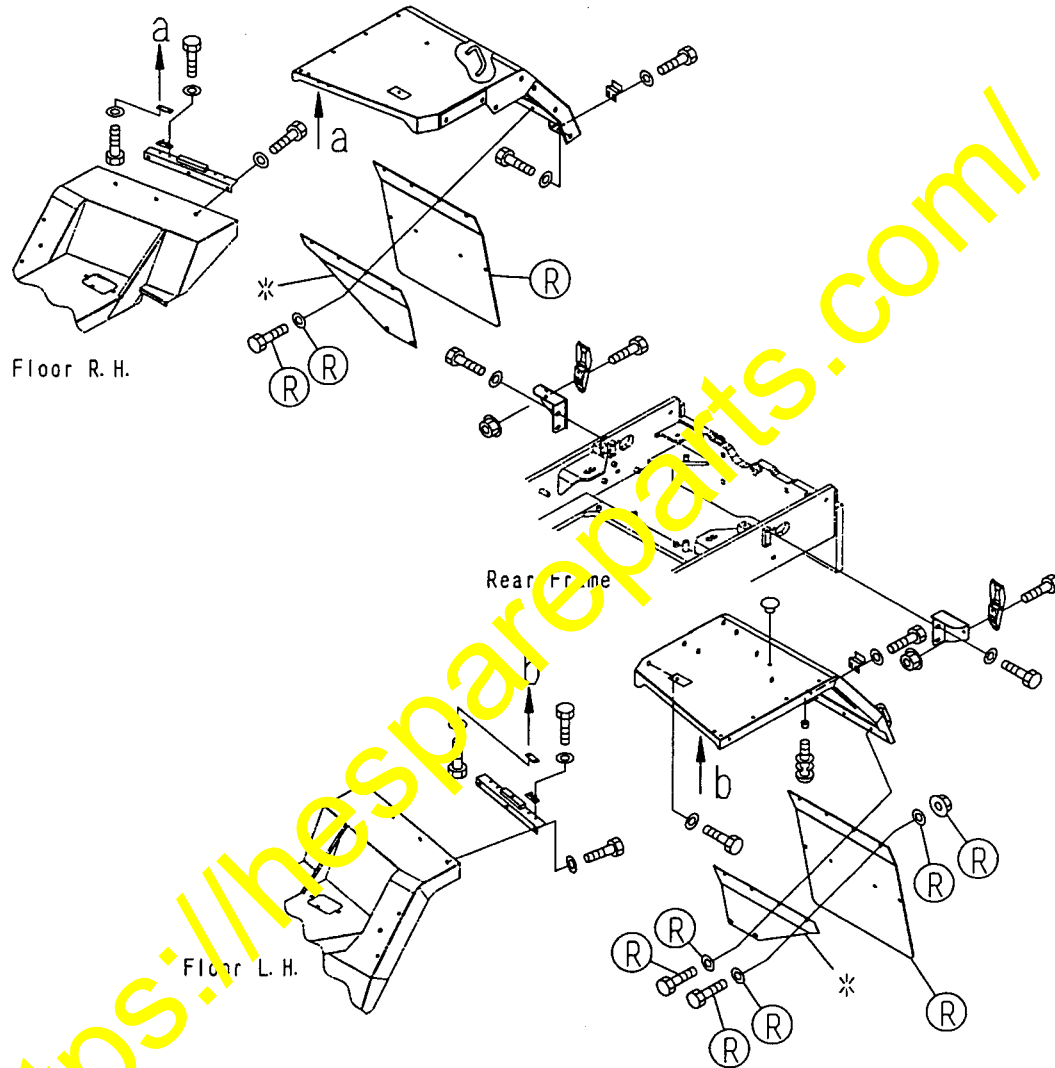

Fig. 6
- (4) Removing the mudguard sheet for the rear full fender (only for the vehicle with the rear full fender attached)
- The parts that must be removed are shown in Fig. 6.
- Those parts marked with (R) will be reused in reassembling.